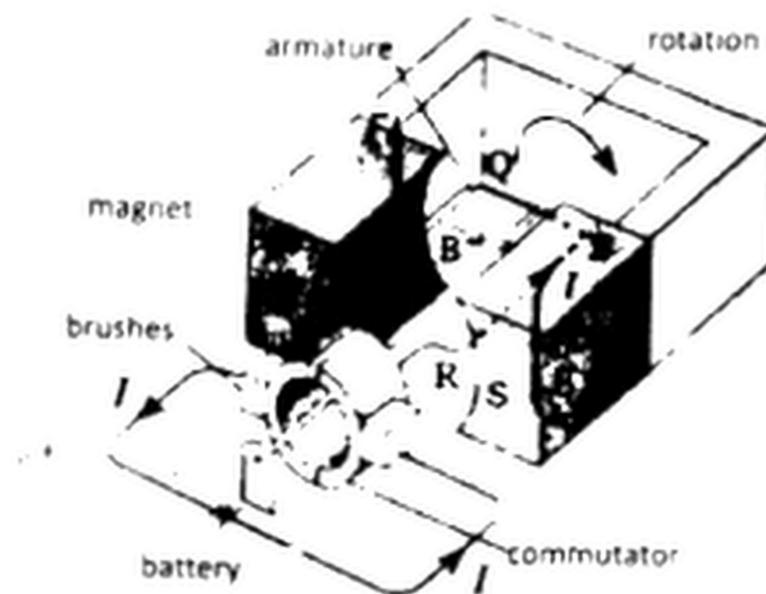

Fig. 15.9. Working principle of D.C. motor
1) As shown in fig. 15.9 that the simple coil placed in a magnet cannot rotate more than 90° . The forces push the PQ side of the coil up and the RS side of the loop down until the loop reaches the vertical position. In this situation, plane of the loop is perpendicular to the magnetic field and the net force on the coil is zero.